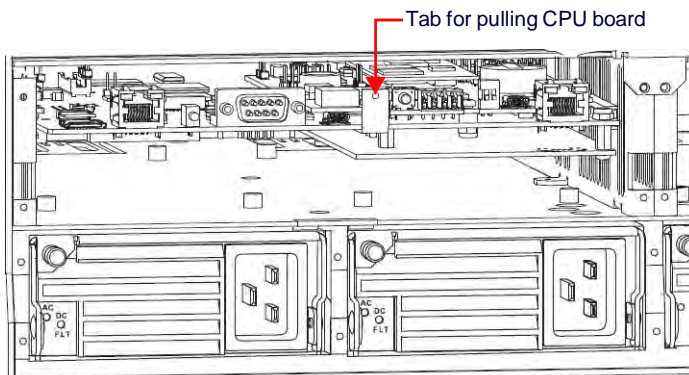

FIG. 150 Enova DGX 6400 - Tab for pulling CPU board
6. Use the tab indicated in FIG. 150 to pull the CPU board approximately four inches straight out of the enclosure: